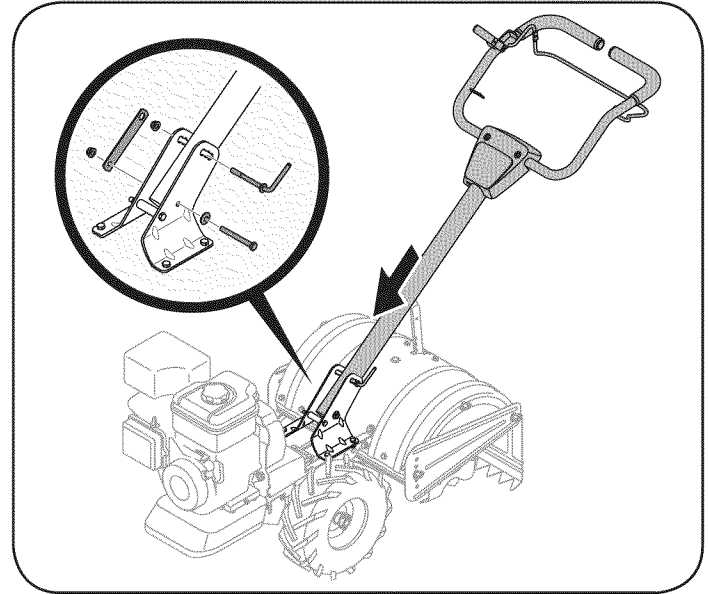

Figure 1
1. Install the handle onto the tiller using the hardware preinstalled on the handle mounting brackets. This consists of a 5/16-18 x 3.00" hex bolt, a handle crank assembly, retainer bracket and two 5/16-18 flange lock nuts. Remove this hardware from the handle mounting brackets on the tiller. Refer to Figure 1 inset.
2. Insert the handle into the handle mounting brackets, lining up the pre-drilled holes. Insert the 5/16-18 x 3.00" hex bolt in the bottom hole from the left hand side through to the other side. Place the round hole end of the hex retainer bracket over the hex bolt and secure loosely with a bell washer and 5/16-18 flange lock nut removed earlier. Refer to Figure 1 inset.
3. Install the handle-crank adjustment rod into the top hole of the mounting bracket from the left hand side of the handle assembly, secure with the other flange lock nut previously removed. Fit the hex end of the retainer bracket over the flange lock nut. See Figure 1.